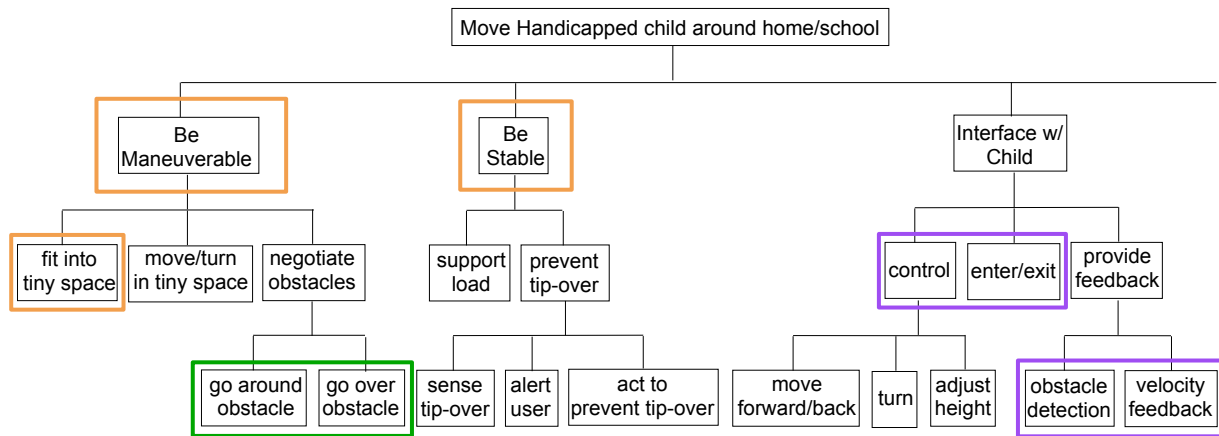

Figure 6.1: A Portion of an Example Function Tree
- b. Figure 6.1 shows a portion of a Function Tree. Identify three of the proposed functions that are incorrect (there are more) and why they are so. (Hint: Some of them are examples of a *very* common mistake in Function Trees.)